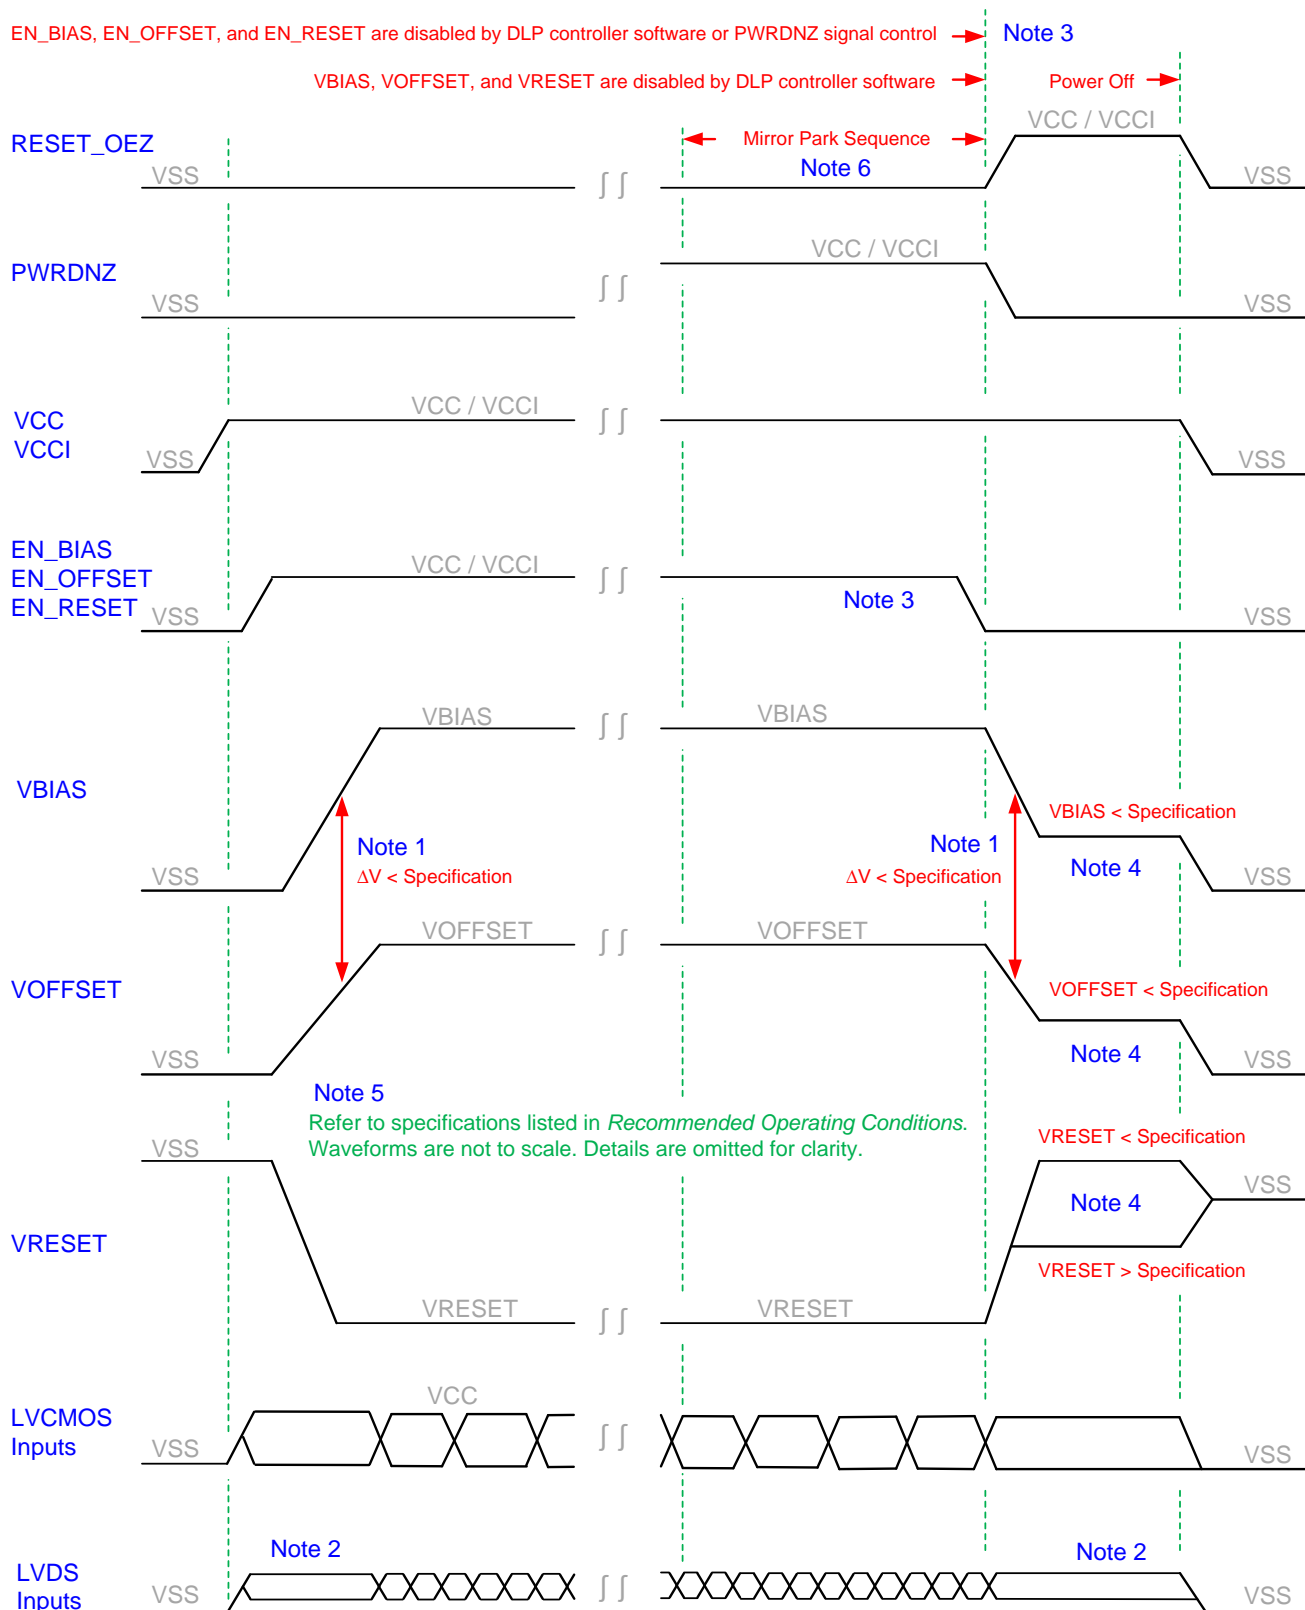

Figure 18. DMD Power Supply Sequencing Requirements
For reliable operation of the DMD, the following power supply sequencing requirements must be followed. Failure to adhere to the prescribed power-up and power-down procedures may affect device reliability. VCC, VCCI, VOFFSET, VBIAS, and VRESET power supplies have to be coordinated during power-up and power-down operations. VSS must also be connected. Failure to meet any of the below requirements will result in a significant reduction in the DMD's reliability and lifetime. Refer to Figure 18.
- Power supply slew rates during power-down are flexible, provided that the transient voltage levels follow the requirements listed in Absolute Maximum Ratings, in Recommended Operating Conditions, and in Figure 18.